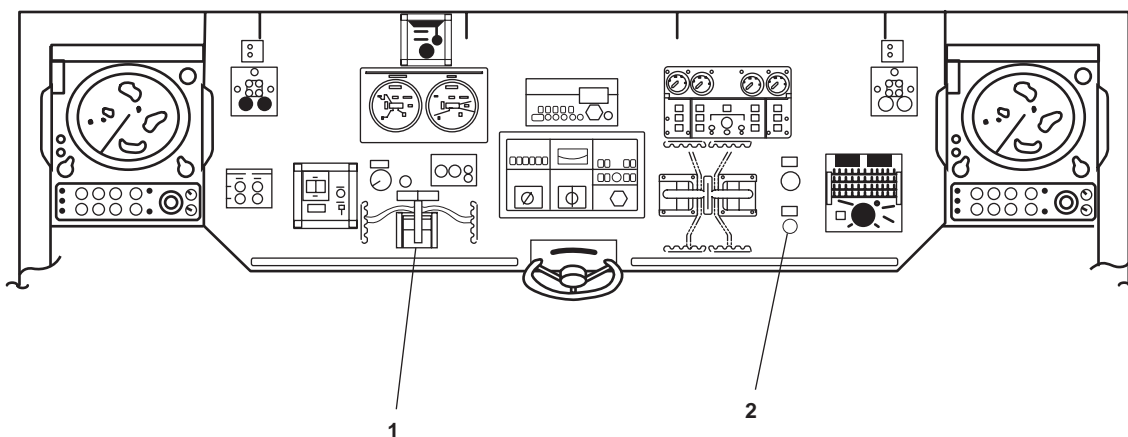

Figure 2. Pilothouse Console
- (1) Ensure that the bow thruster engine throttle control lever (figure 2, item 1) is straight up in the NEUTRAL (center) position.
- (2) Ensure that the COMMAND TRANSFER plunger (figure 2, item 2) is down, in the disengaged position.